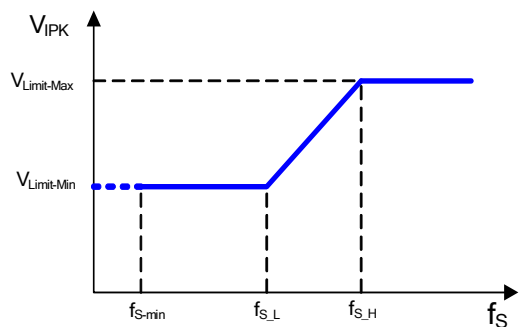

Figure 5: Peak Current Modulation
In constant current (CC) operation, the reference for I_{pk} is fixed at $V_{Limit-Max}$. In constant voltage (CV) operation, I_{pk} is modulated by the switching frequency (see Figure 5).